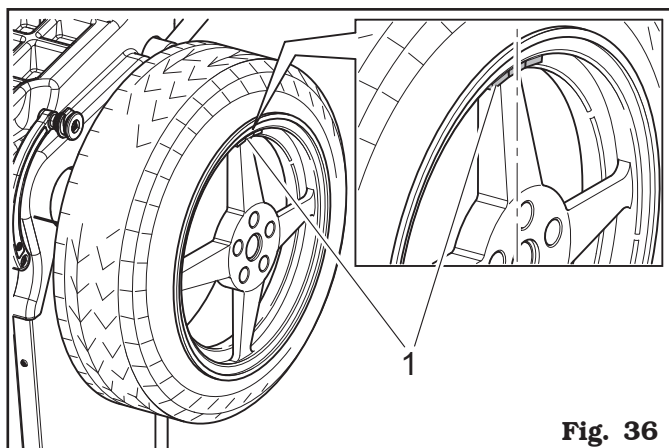

Fig. 36
Fit the adhesive weight on wheel outer side (in the example 25 g). The outer side weight must be positioned **by hand on the vertical – “at 12 o’clock”** (see Fig. 36 ref. 1).